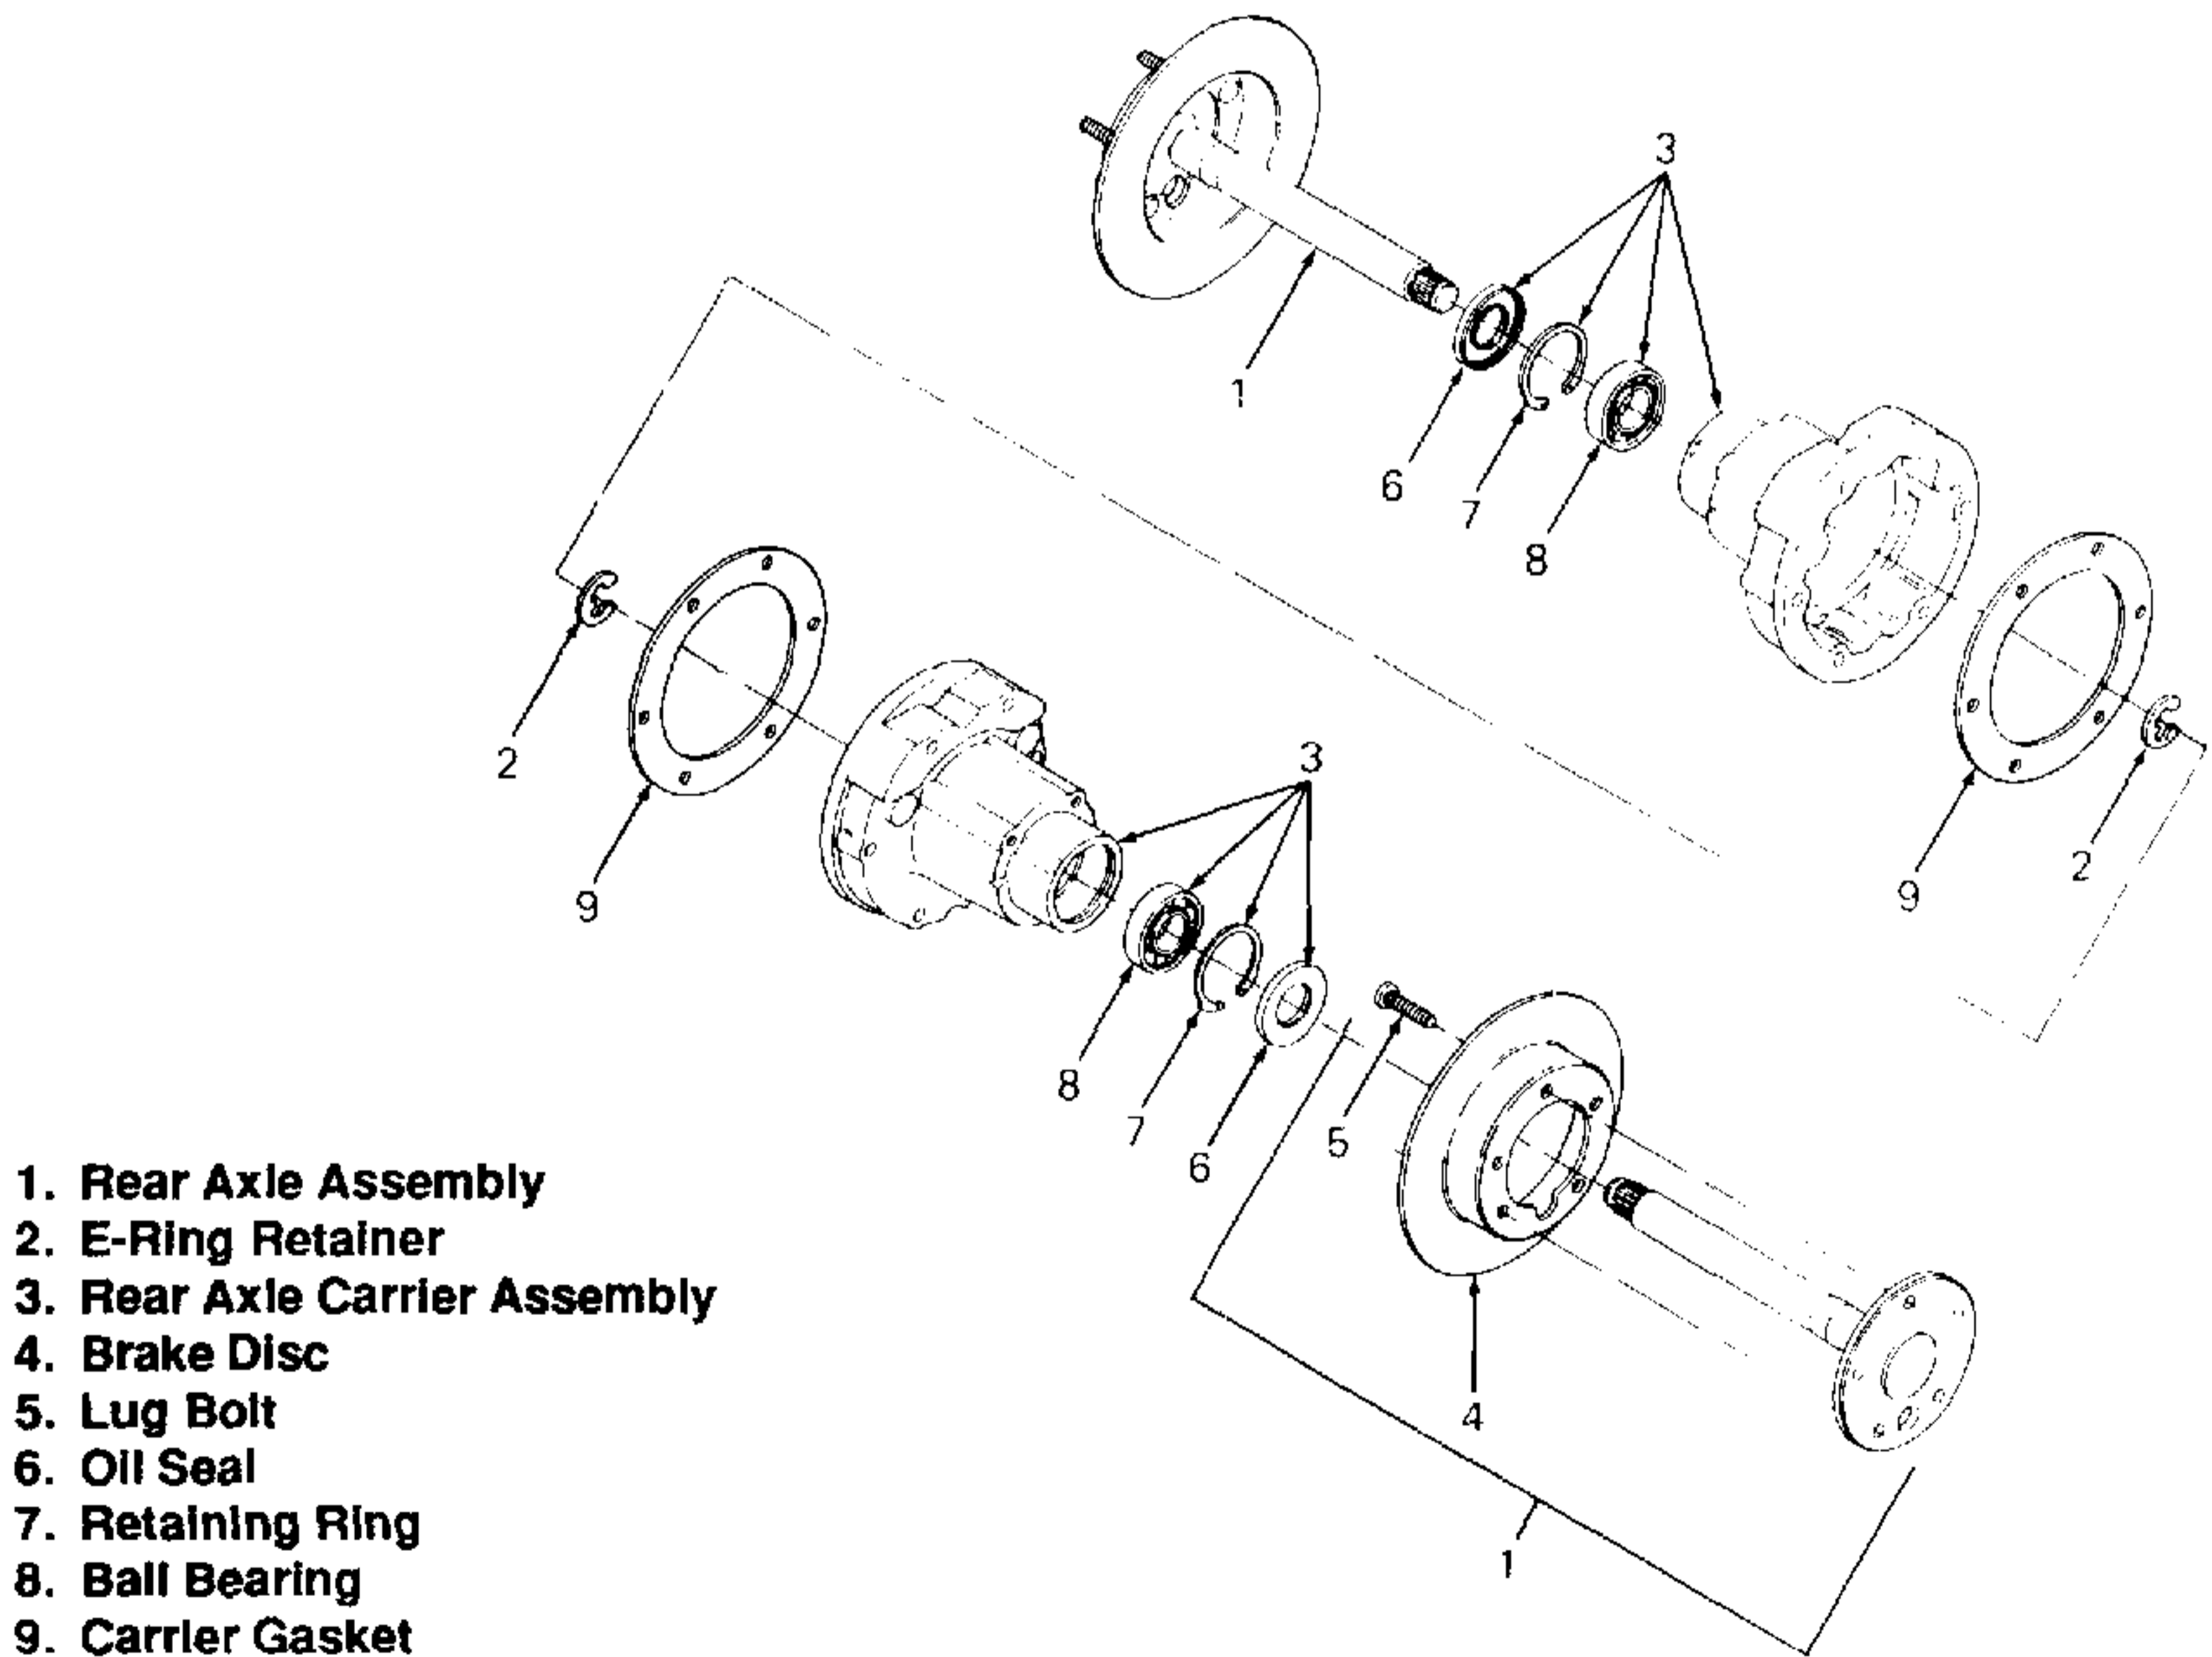

Figure 5-73. Rear Axle Carrier (All Models).
3. Remove rear axle assembly (1, Figure 5-73) as follows:
- b. Remove E-ring retainer (2, Figure 5-73) from end of axle inside differential.
- c. Remove rear axle assembly (1).
4. Remove rear axle carrier assembly (3) by removing hex patch bolts securing carrier to transaxle housing. Tap carrier to loosen seal and remove carrier.